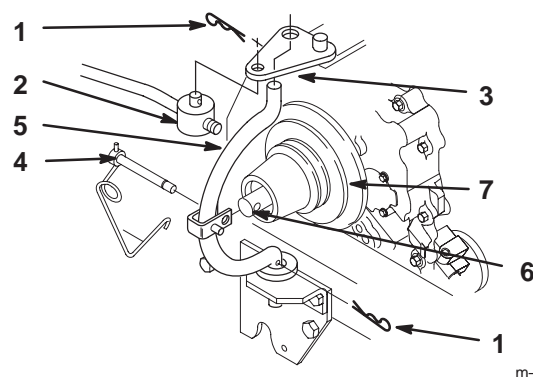

Figure 31
1. Unlatch and remove locking clevis pin that secures yoke assembly to clutch shaft. Pivot yoke out and forward to remove from clutch shaft and engagement plate (Fig. 31).
2. Replace belt in inside pulley groove (Fig. 31).
3. Assemble yoke and engagement plate and attach locking clevis pin, trunnion and hairpin coppers to secure (Fig. 31).
4. Assemble yoke and engagement plate and attach clevis pin, trunnion and hairpin cotter to secure (Fig. 31).